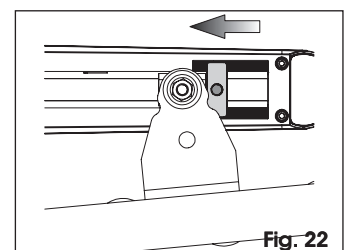

Fig. 22
- Move the mechanical stop until it is close to the front fitting, as indicated in figure 22.